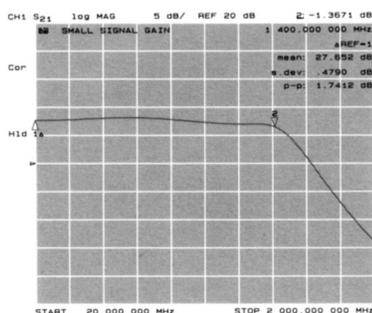

Figure 4. Small signal gain measurement
Small signal gain is the gain in the amplifier's linear region of operation. This is typically measured at a constant input power over a swept frequency. Figure 4 shows an example swept frequency gain measurement.
6. Measure the gain variation or ripple in the frequency range. Set two markers on the trace to define the start and stop of the frequency range of interest, then use the marker statistics function to view peak-to-peak ripple. (See Figure 4.)